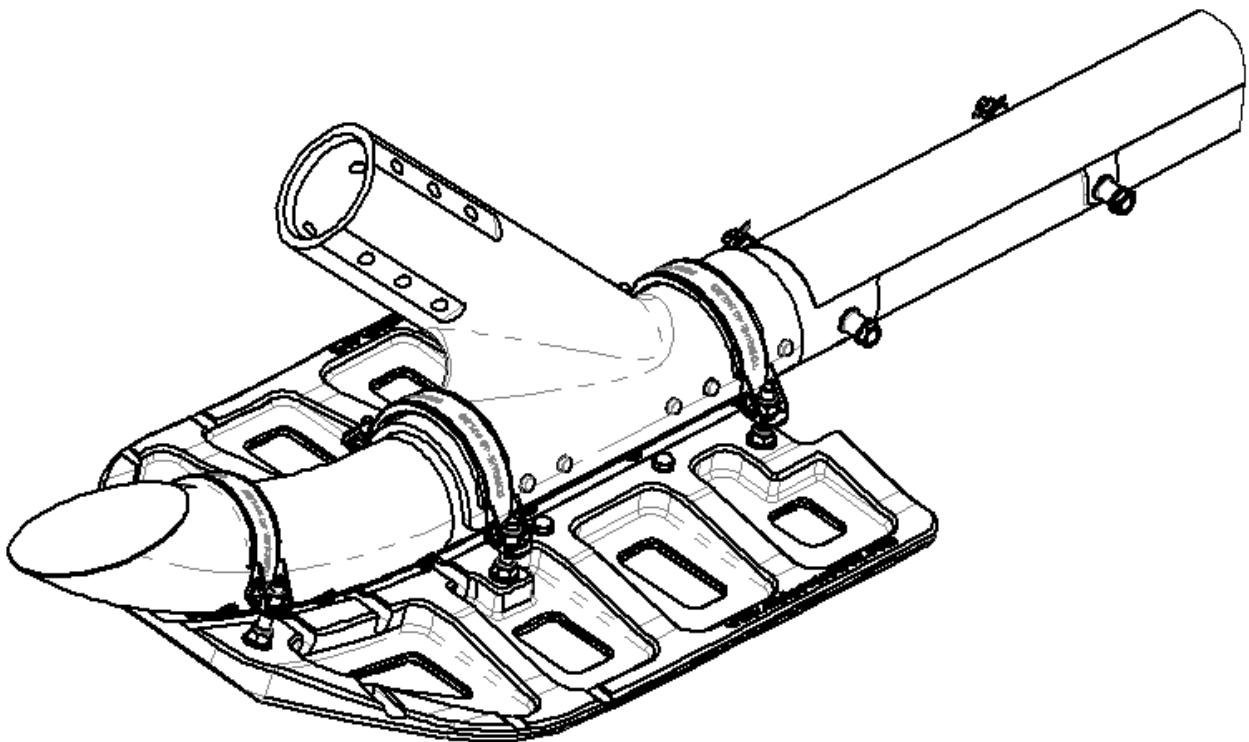

Figure 3
4. Install the Yeti Paw, Assy normally as per AAL-490-025-701 Section 3. Reference Figure 3.